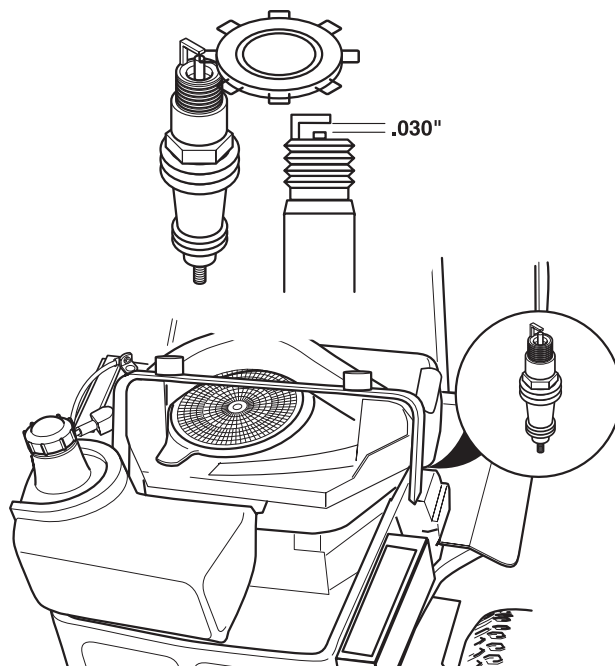

Figure 31. Spark Plug Gapping
4. Check the spark plug gap. It should be .030" (see Figure 31).